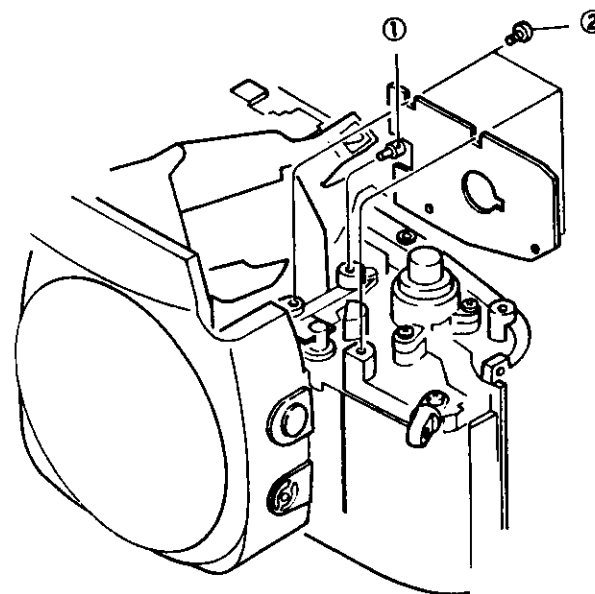

Fig. 29
- 2) Bend the SPD CIRCUIT BOARD ASSY at A-A' portion and assemble it as shown in Fig. 29.
- 3) Set the LED (red) (No. 1) into the sheet hold plate shown in Fig. 29.
- 5) Tighten three SCREWS (No. 2) shown in Fig. 29.